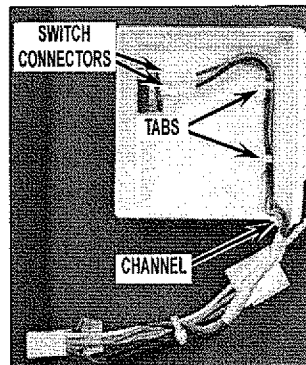

FIGURE 12
14. Install connectors to switch and route new harness in module cover behind tabs and in channel as shown. See Figure 12.